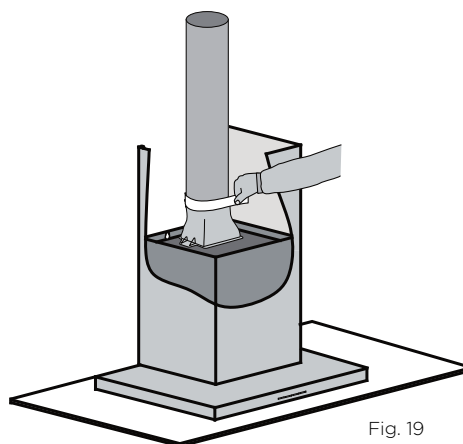

Fig. 19
- 14b. **Ducted mode** (Fig. 19) Fit a 150mm diameter non combustible flue pipe. Continue the centre line to the ceiling. Fit flue pipe to the exhaust transition duct. Use cable ties or suitable duct tape to secure flue pipe to the transition duct.